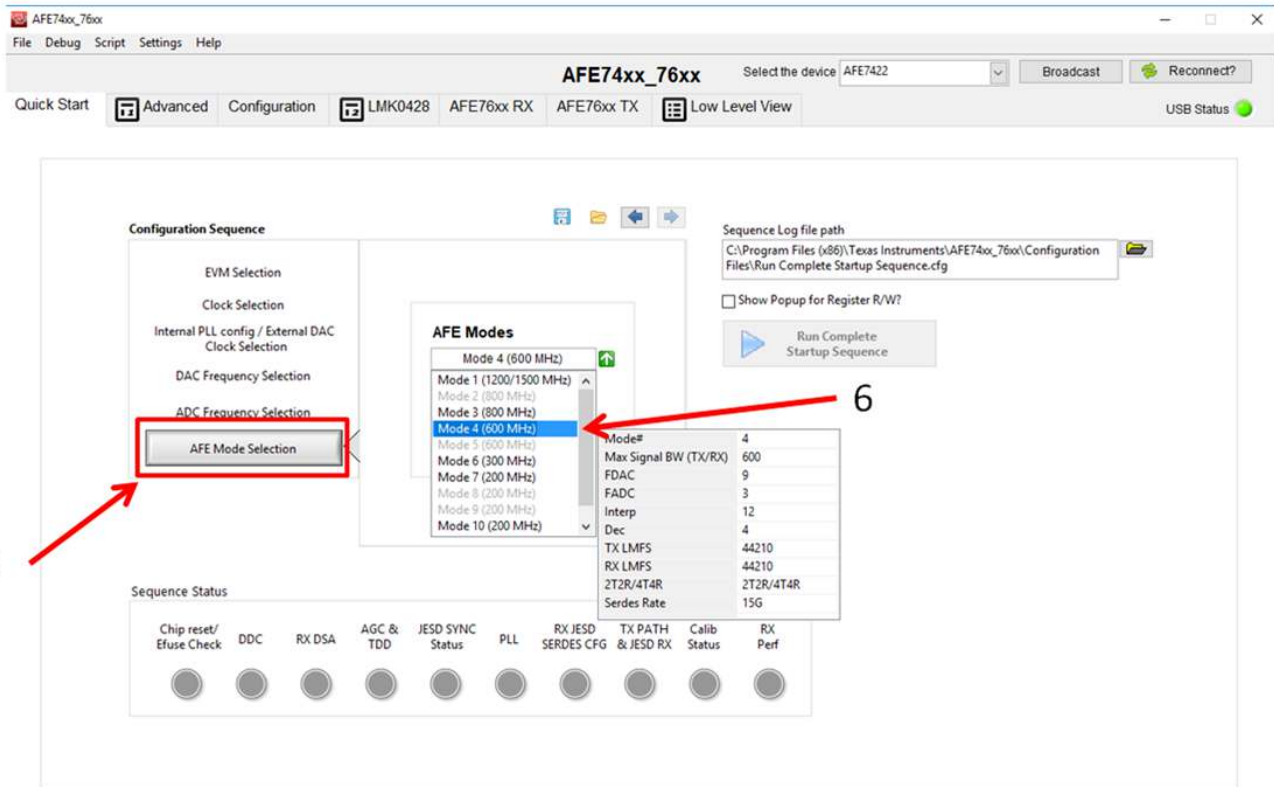

Figure 17. AFE Mode Selection Page Displaying Mode 4
5. Navigate to the *AFE Mode Selection* page, labeled as 5 in Figure 17.
6. Select Mode 4, shown as label 6 in Figure 17.